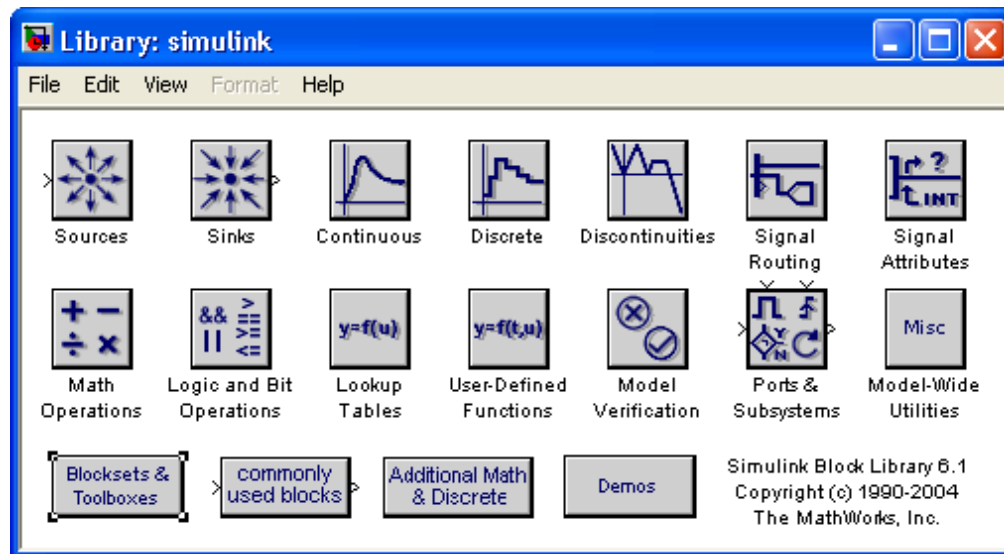
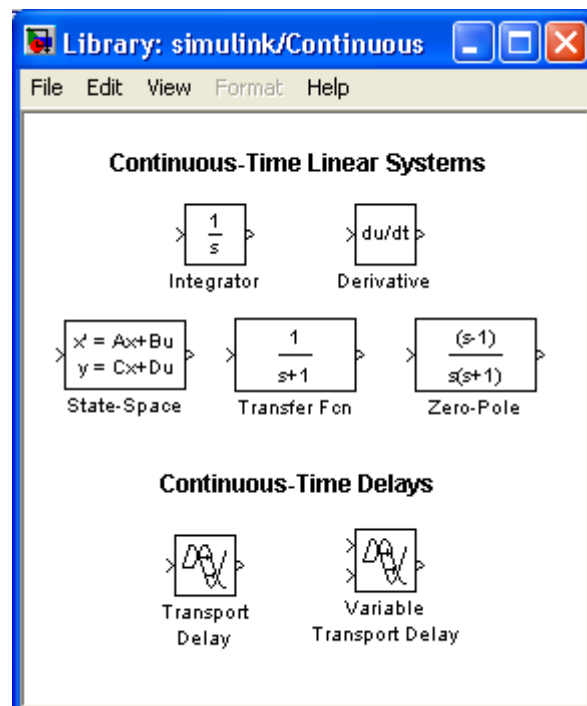

Figure 4: Example of the Simulink Icon Library
Figure 5: Icon-Based DSP Blockset Library
3. An icon based representation of the Simulink libraries, displayed in a separate window, can be generated by right clicking on any of the library names (such as Simulink or Continuous) in the browser and then selecting the displayed item. These icon-based libraries can be opened by double-clicking on the icons. An example of an icon window for the Simulink library is given in Figure 4.
4. An icon-based representation of each library contained in the Simulink library window in Figure 4 is generated by double-clicking on the icon. Figure 5 shows the Continuous sub-library.